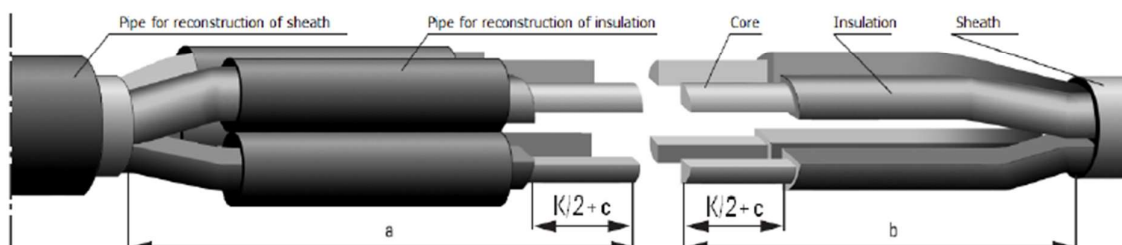

Fig. 1
- 2.1. Remove the cable sheaths in accordance with Table 2 and remove insulation from terminal sections of connected cores as specified in Table 3 - Figure 1.
- 2.3. Place a pipe for restoring the sheath over one end of the cable and slide the longer ends of the pipe for restoring insulation - Fig. 1.